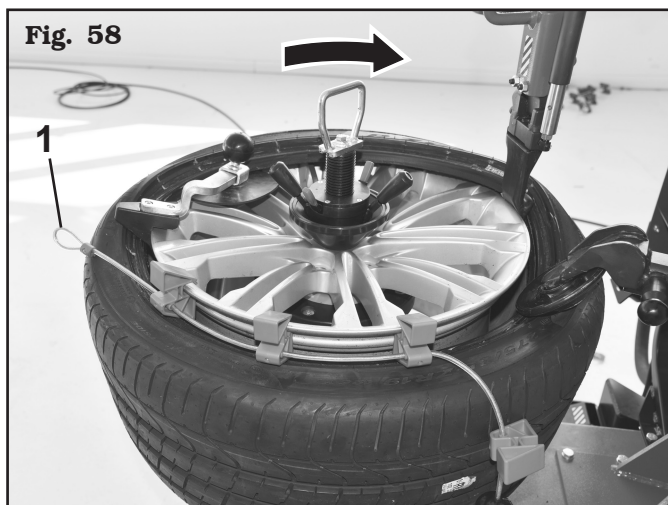

Fig. 58
3. rotate clockwise up to tyre complete assembly (see **Fig. 58**):
FOR THE MOUNTING OF VERY DIFFICULT WHEELS, USE THE EXTENSION OF THE BEADPUSHER (OPTIONAL) (FIG. 58 REF. 1).